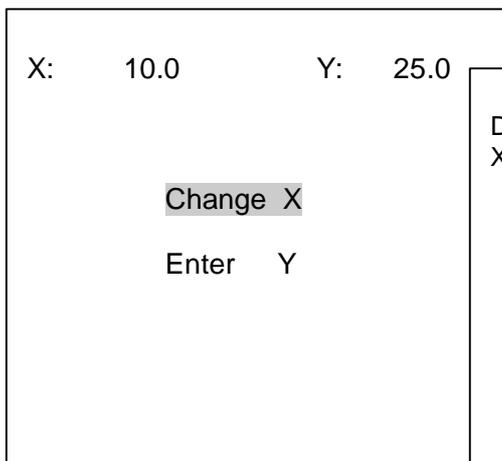

Figure 18: Change “X” coordinate
- Use ? from Measurement Mode Menu to open the menu in Figure 18.